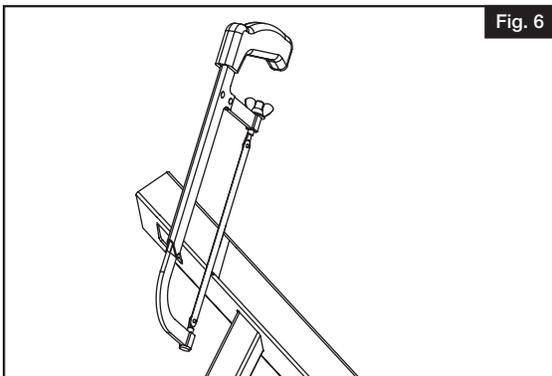

Fig. 6
- Remove clamped stair kit from posts. Cut along all four angled marks on rails (Fig. 6).